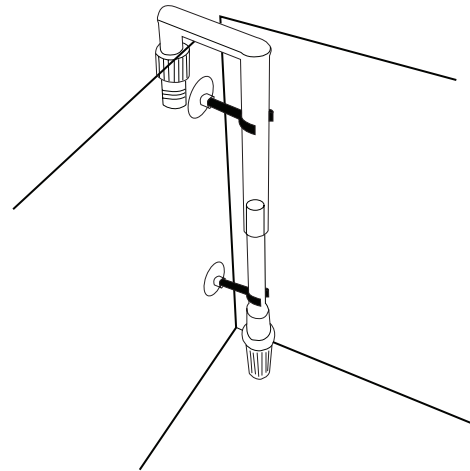

Fig 1
16. Install the inlet first. (One with the Strainer) Place it into the aquarium, stick it to the glass wall. Fig 1
Note: Your aquarium must be filled with water to prime your filter. Ensure the tap is in the ON position by pressing the locking lever down (Fig 1). Once the filter is running double check the fittings and seals for water tightness. Fig 1